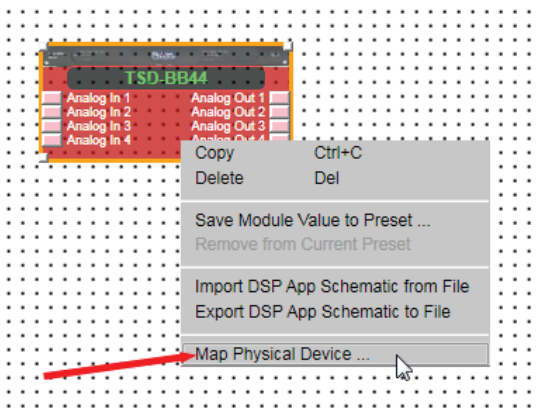

Figure 12
- Right Click the TSD Hardware to “Map Physical Device” and follow the steps shown in Figures 12 and 13 below.